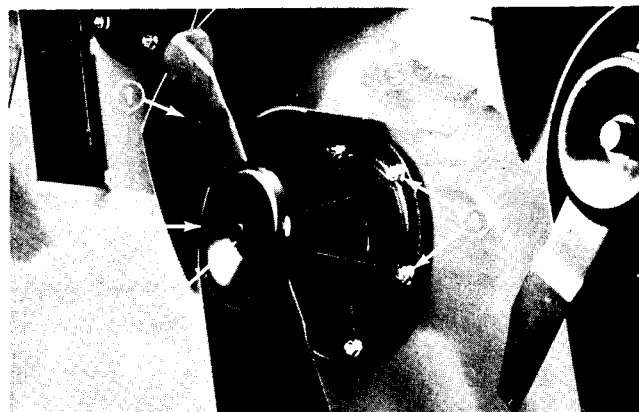

Figure 25
4. Using a rag or thickly padded glove, grasp end of blade. Remove blade bolt, lockwasher, anti-scalp cup and blade from spindle assembly (Fig. 25).
5. Remove six (6) carriage bolts and flange nuts holding spindle housing assembly to cutting unit housing. Lift spindle housing assembly out of cutting unit.
9. Mount spindle assembly on cutting unit with six (6) carriage bolts and flange nuts (Fig. 25).